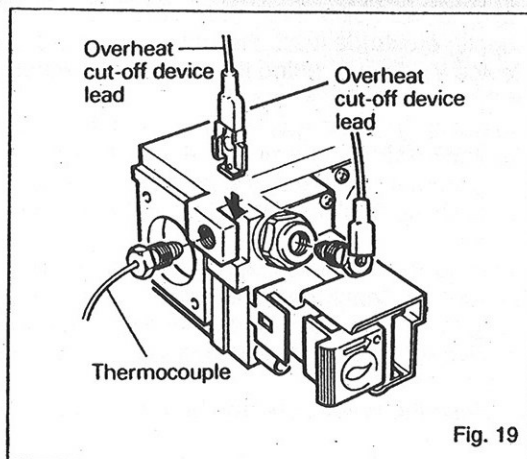

Fig. 19
7. Connect the thermocouple to the gas valve and pilot assembly. Ensure that the overheat cut-off device lead is in position in the gas valve before the thermocouple is secured to the gas valve, See Fig. 19.
### 5.6 To replace the overheat cut-off device - see Fig. 19.
4. Unscrew the thermocouple from the gas valve and withdraw the cut-off device lead. Unscrew the other cut-off device lead from the gas valve. See Fig. 19.
7. Disconnect the overheat cut-off device leads from the gas valve, see Fig. 19.